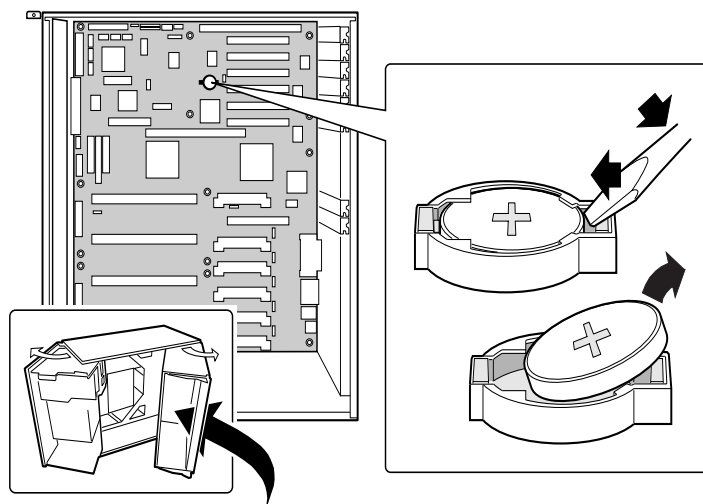

Figure 28: Replacing the Battery
6. Gently pull the battery from its socket. You may need to use a screwdriver with an insulated handle or other implement to remove the battery, see Figure 28.